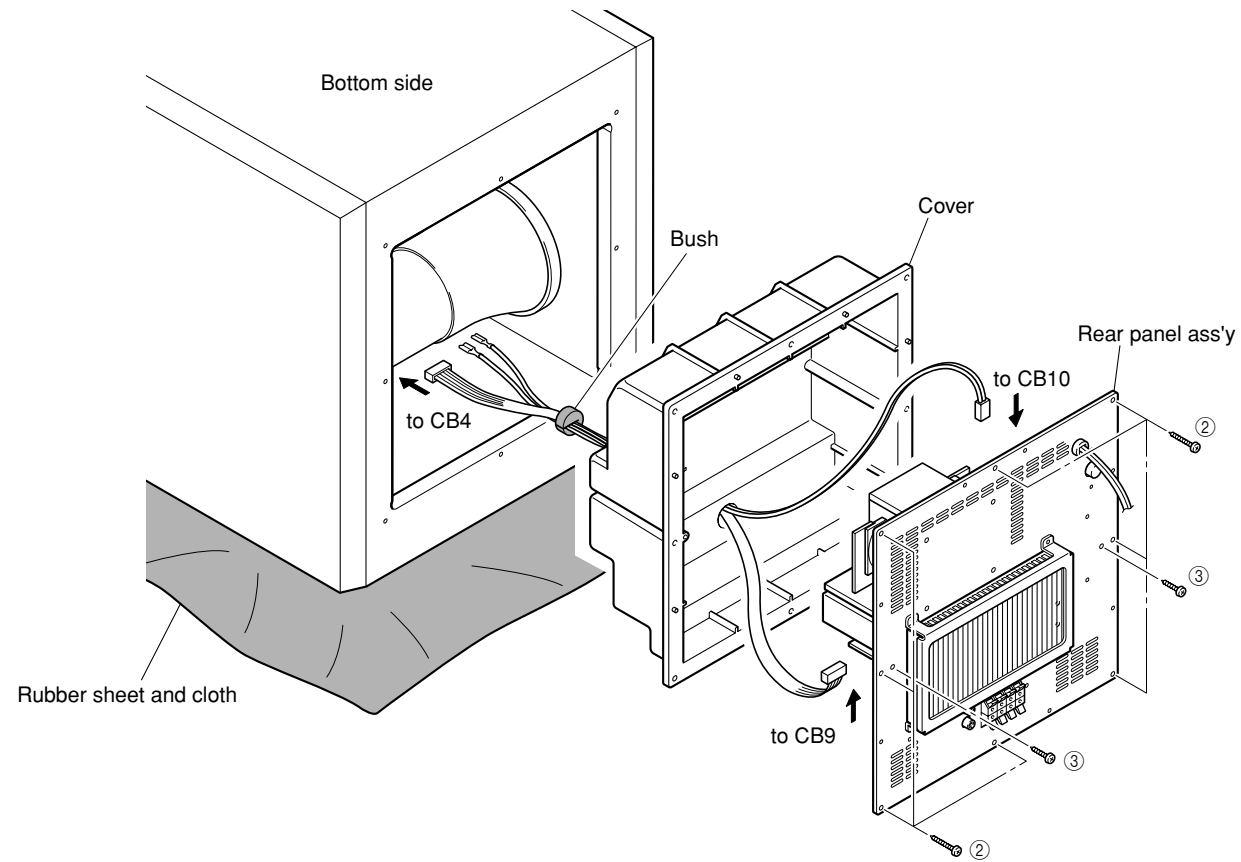

Fig. 2
- a. Remove 8 screws (②). (Fig. 2)
- \* Screws (②) are identified with arrow marks (↔).
- b. Pull out the rear panel ass'y together with the cover. (Fig. 2)
- c. Remove bush. (Fig. 2)
- d. Remove 2 screws (③). (Fig. 2)
- \* Screws (③) are identified with arrow marks (↔).
- e. Remove the cover. (Fig. 2)
- f. Disconnect the connectors (CB9 and CB10). (Fig. 2)
- 2) In order to shorten the time required for operation check; connect a 10 k-ohms resistor at both ends of R45 on the MAIN (2) P.C.B.. (Fig. 2)